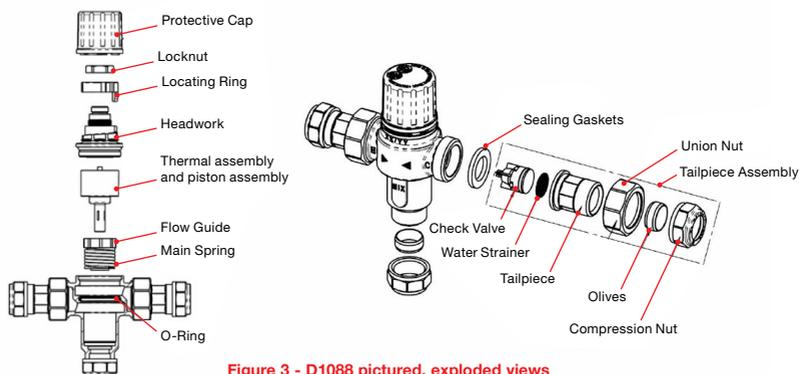

Figure 3 - D1088 pictured, exploded views
- For D1088, wafer strainers are supplied as shown in Figure 3.